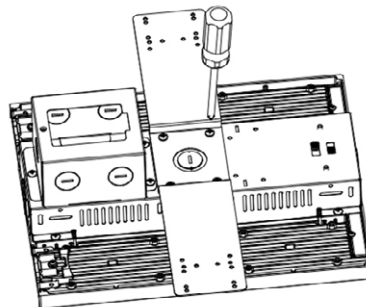

Figure 21
5. Attach the emergency bracket to the designated holes in the driver box and secure it with screws. (see Fig. 21)